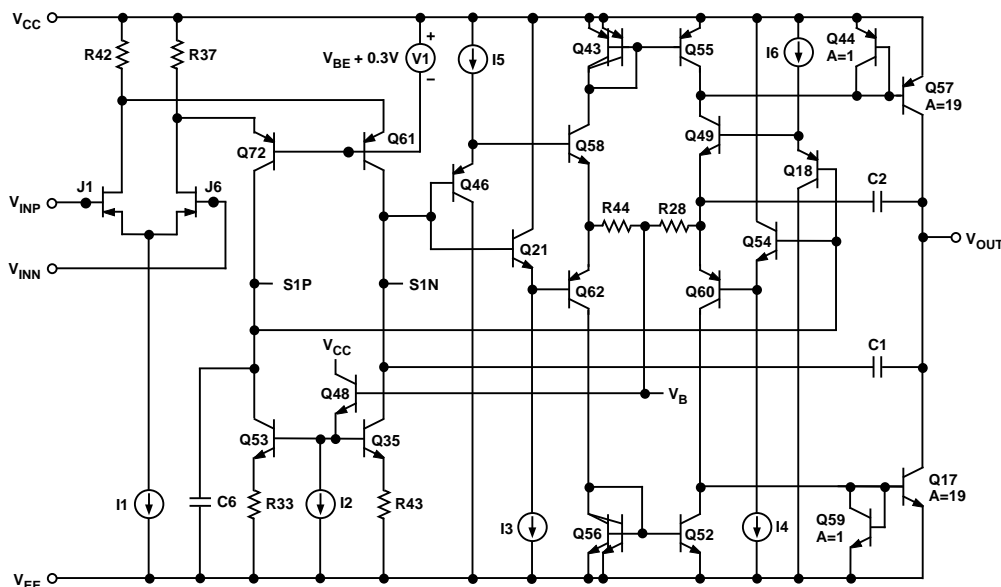

Figure 35. Simplified Schematic
This AD823 is fabricated on Analog Devices’ proprietary complementary bipolar (CB) process that enables the construction of pnp and npn transistors with similar f_T s in the 600 MHz to 800 MHz region. In addition, the process also features N-channel JFETs, which are used in the input stage of the AD823. These process features allow the construction of high frequency, low distortion op amps with picoampere input currents. This design uses a differential-output input stage to maximize bandwidth and headroom (see Figure 35). The smaller signal swings required on the S1P, S1N outputs reduce the effect of nonlinear currents due to junction capacitances and improve the distortion performance. With this design harmonic distortion of better than $-91\text{ dB @ }20\text{ kHz}$ into $600\ \Omega$ with $V_{OUT} = 4\text{ V p-p}$ on a single 5 volt supply is achieved. The complementary common-emitter design of the output stage provides excellent load drive without the need for emitter followers, thereby improving the output range of the device considerably with respect to conventional op amps. The AD823 can drive 20 mA with the outputs within 0.6 V of the supply rails. The AD823 also offers outstanding precision for a high speed op amp. Input offset voltages